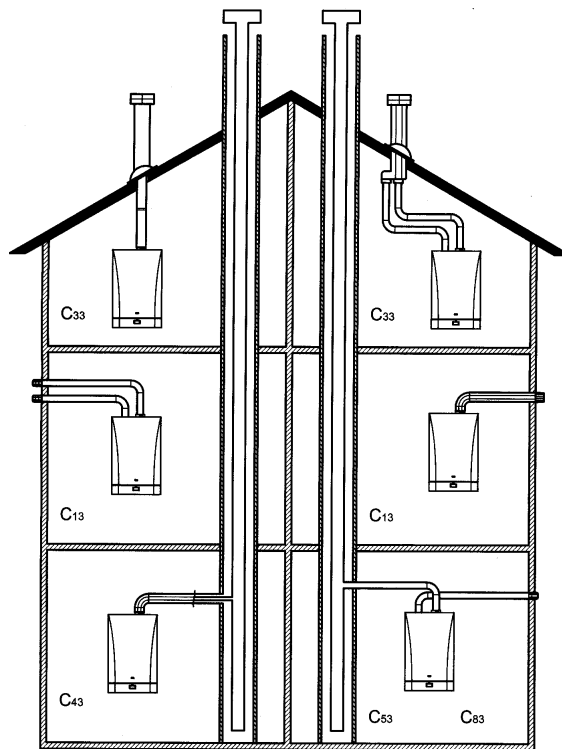

Figure 7
12.1 FAN RPM UPDATING DEPEND OF PIPES LENGHT (E.G. FIGURE 7)